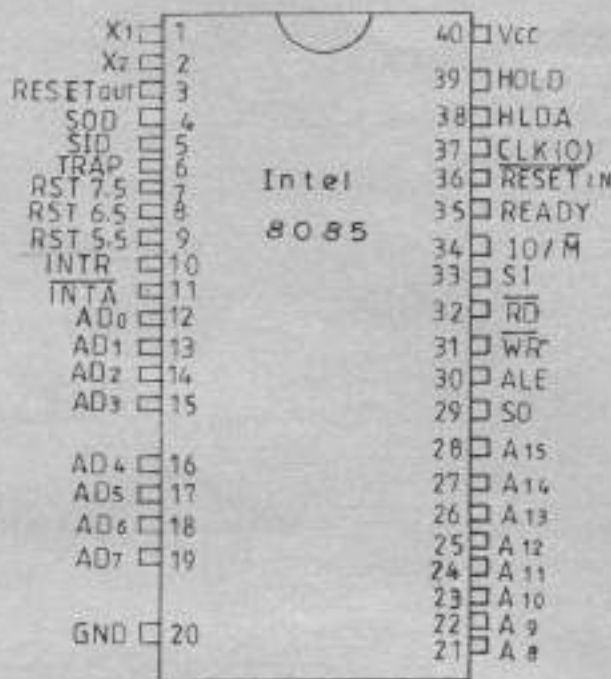

Fig. 1
- (i) carry flag (C);
- (ii) zero flag (Z);
- (iii) sign flag (S);
- (iv) overflow flag (V). (4 marks)
- (I) Debugger;
- (II) Assembler. (4 marks)
- (b) Figure 1 shows an Intel 8085 microprocessor pin configuration. State the pins that will execute the following: